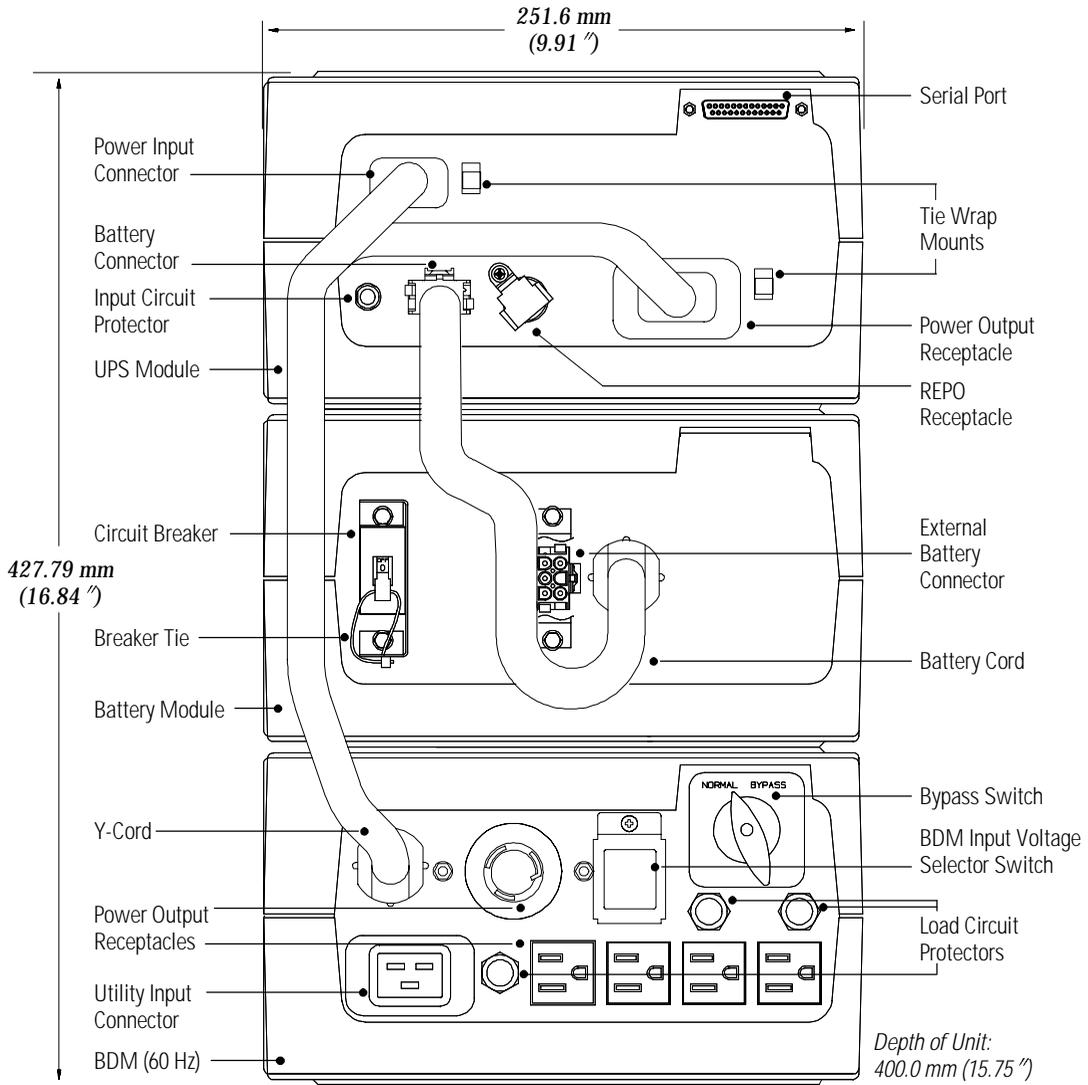
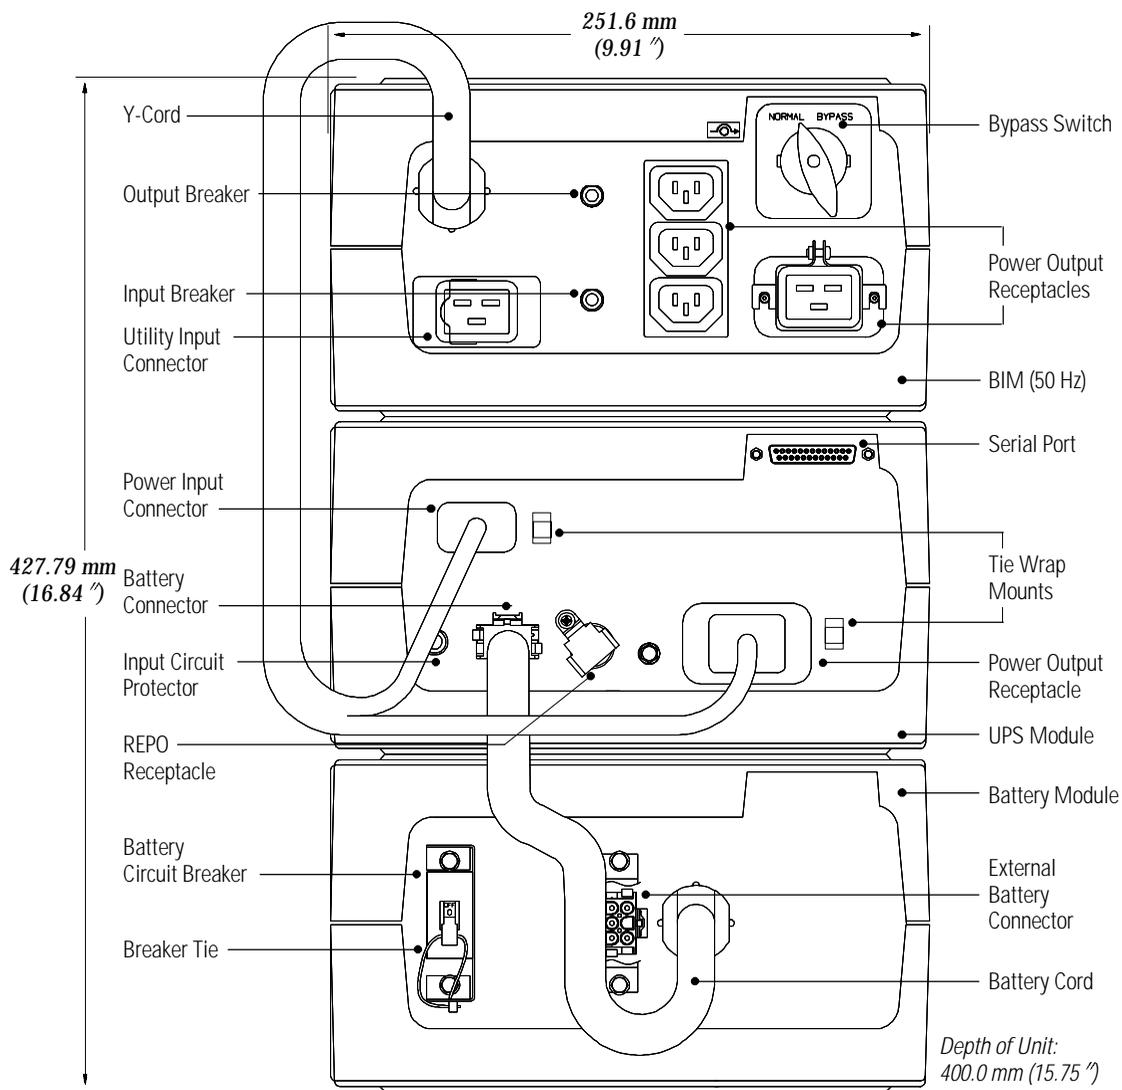

Figure 5. UPS with BDM Rear Panel
Figure 6. UPS with BIM Rear Panel
Whenever the units are not energized, verify the circuit breaker on all battery modules is returned to the OFF (O) position (see Figure 5 on page 32).
5. Verify the Bypass switch on the Bypass Module rear panel is in the NORMAL position (see Figure 5 or Figure 6).
6. Verify the circuit breaker on all battery modules is in the OFF (O) position.
12. Plug the Y-cord of the Bypass Module into the power connectors on the UPS rear panel as shown in Figure 5 or Figure 6.
2. Pivot the REPO receptacle guard out of the way, plug the REPO plug/receptacle UPS connector into the REPO receptacle on the UPS rear panel and twist the connector in place (see Figure 5 on page 32 or Figure 6 on page 33).
1. Verify the Bypass switch on the Bypass Module rear panel is in the NORMAL position (see Figure 5 on page 32 or Figure 6 on page 33).